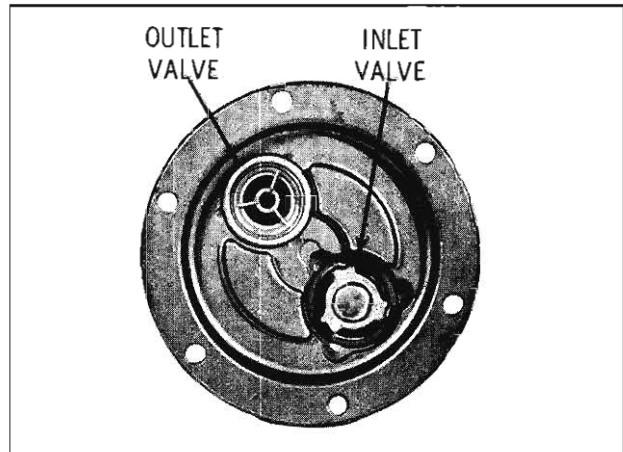

Fig. 3-482 Fuel Valves
- a. Place the inlet valve on top of the gasket with the spring cage facing out of the cover as shown in Fig. 3-482.
- b. Place the outlet valve on top of the gasket with the spring cage facing into the cover. (Fig. 3-482)